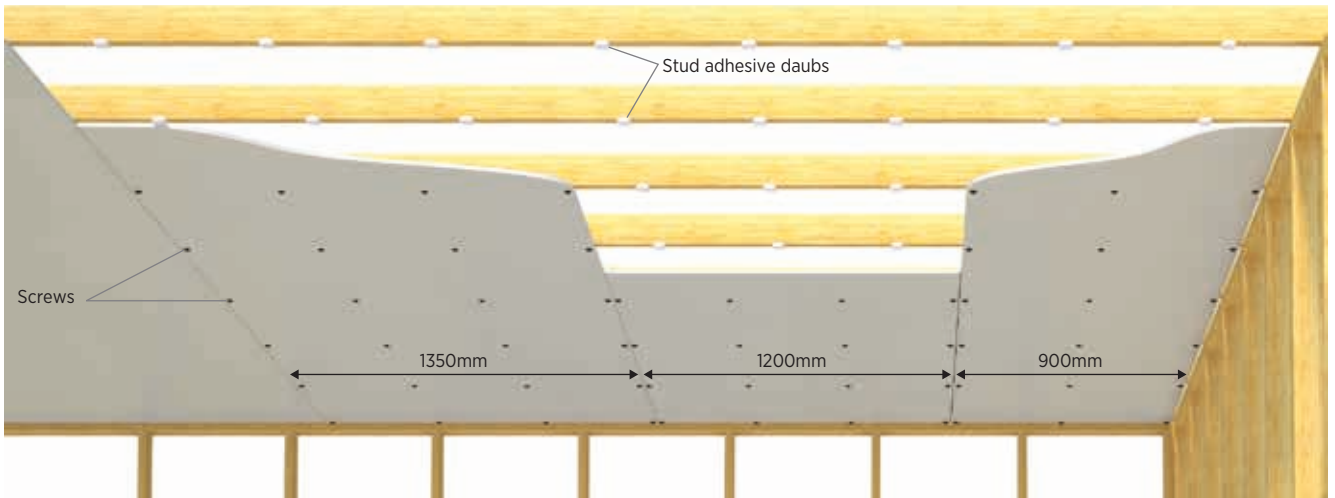

Figure 19: **Combination adhesive and screw fixing to ceilings - 1/3 fixing method**
- Use the 1/3 Fixing Method as illustrated in Figure 19.